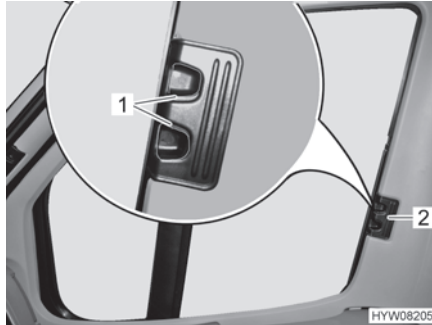

Fig. 78 Roman shade for driver's and passenger's window
- Press the release handles (Fig. 78,1) and hold them down.
- Using the handle (Fig. 78,2), draw the Roman shades for the driver's and passenger's window to the other side of the window and secure them to the magnetic strips.
- Use handle (Fig. 78,2) to push in the Roman shades for the driver's and passenger's window as far as possible.
- Let go of the release handles (Fig. 78,1) and let them engage.